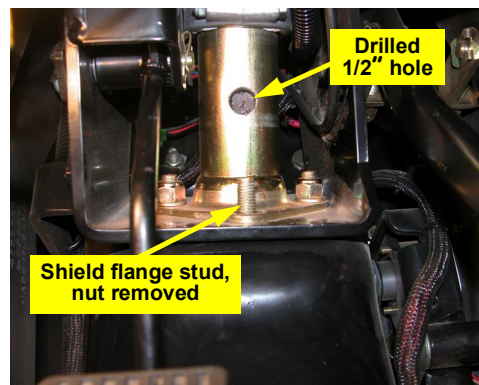
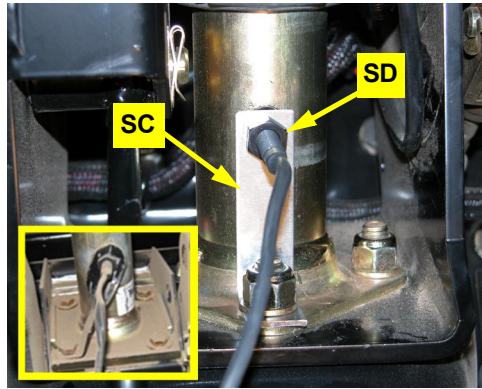

Figure 1d: Shield flange stud and drilled hole
Figure 1e: Installed sensor assembly (see Note after step 1f)
- d. Remove the bottom left or right steering shaft shield flange bolt or nut. Using the bent sensor arm as a template, drill a 1/2" hole in the steering shaft shield (Figure 1d). (See NOTE after step 1f.)
- f. Fit the sensor **SD** to the sensor arm **SC**, and then use the removed flange bolt or stud to attach the assembled sensor and sensor arm to the flange (Figure 1e).
*If there is insufficient access to drill the shield in line with the bolt or stud (as shown in Figure 1d), bend and twist the sensor arm as required and drill the hole between the bolts or studs. Mount the sensor arm and sensor as shown the Figure 1e inset.*